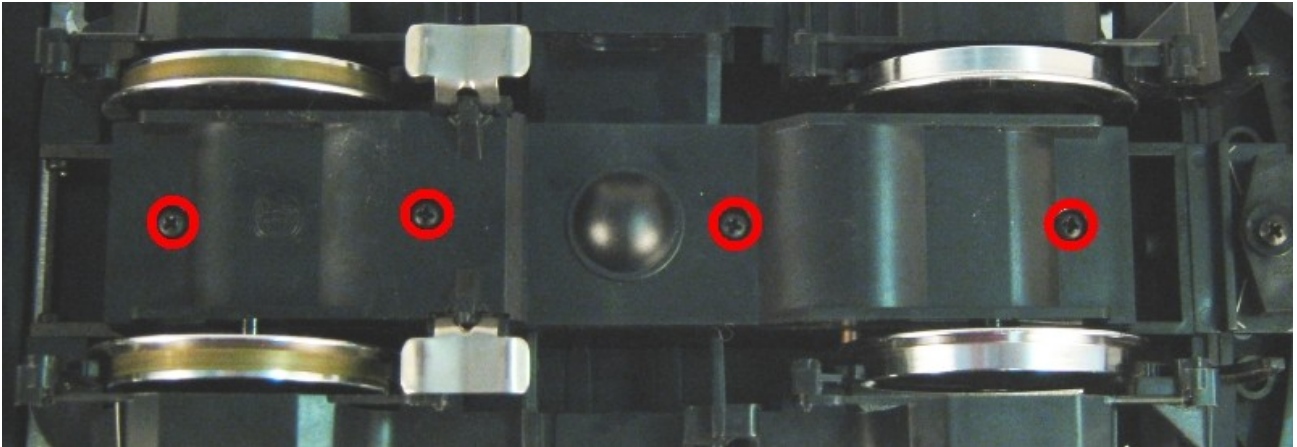

Fig. 2: Opening the gearbox base
- To do this, loosen the 4 marked screws in the gear unit bottom (Fig. 2).